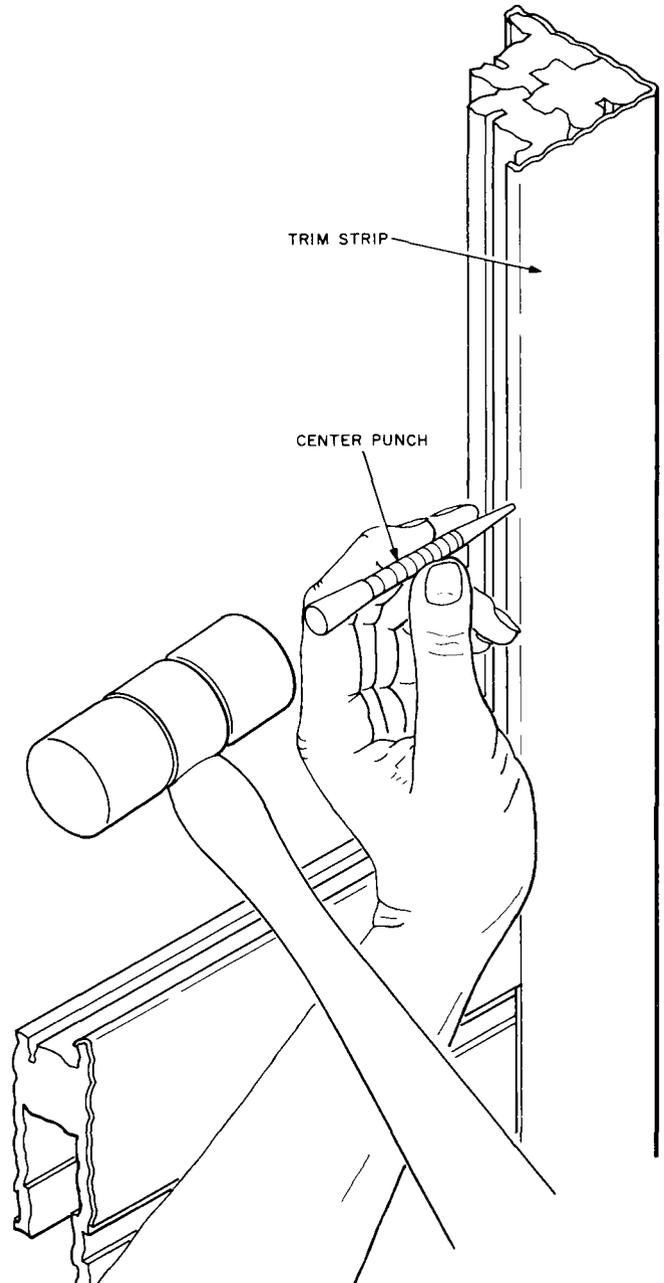

Fig. 17—Method of Crimping Trim Strips
- (7) Crimp the top edge of the T6 trim strip approximately every 6 inches using RS-14770 soft face hammer and a center punch (Fig. 17).
(8) Crimp the top edge of the T5 trim strip approximately every 6 inches using RS-14770 soft face hammer and a center punch (Fig. 17).